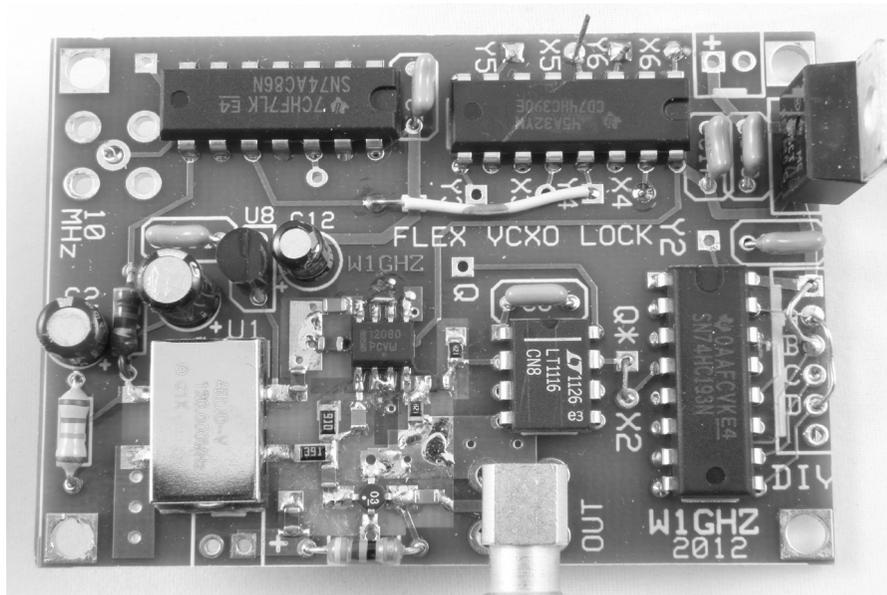
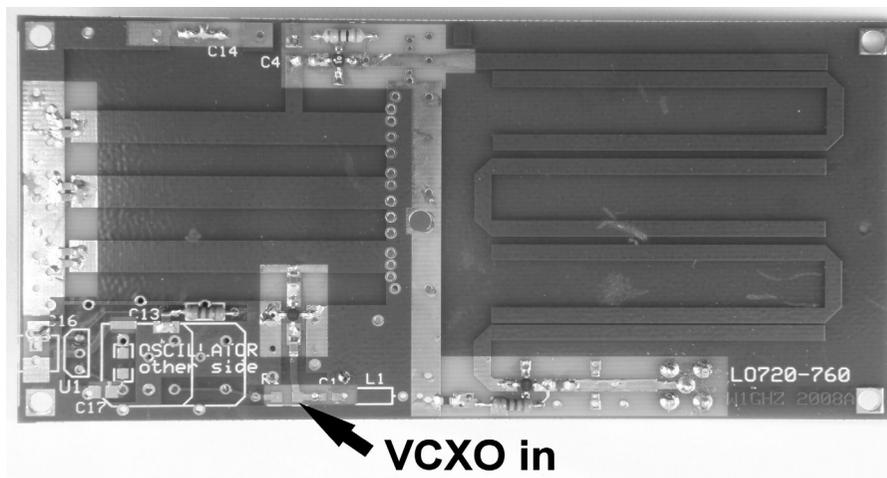
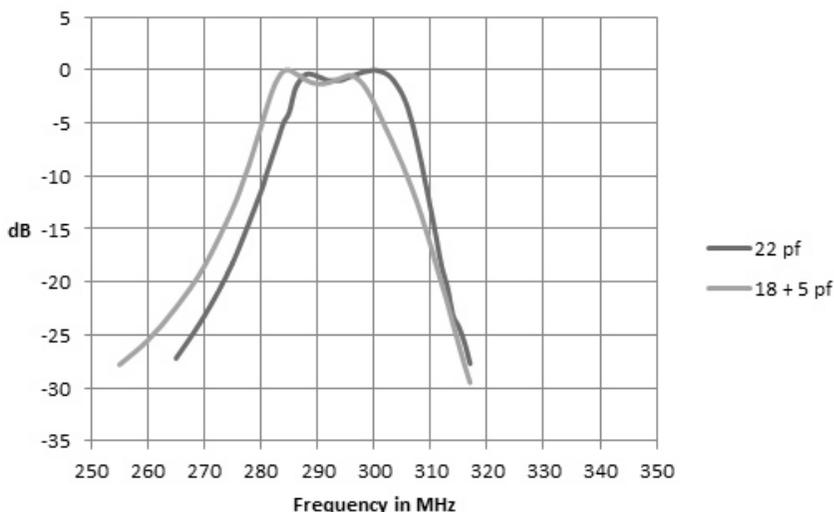
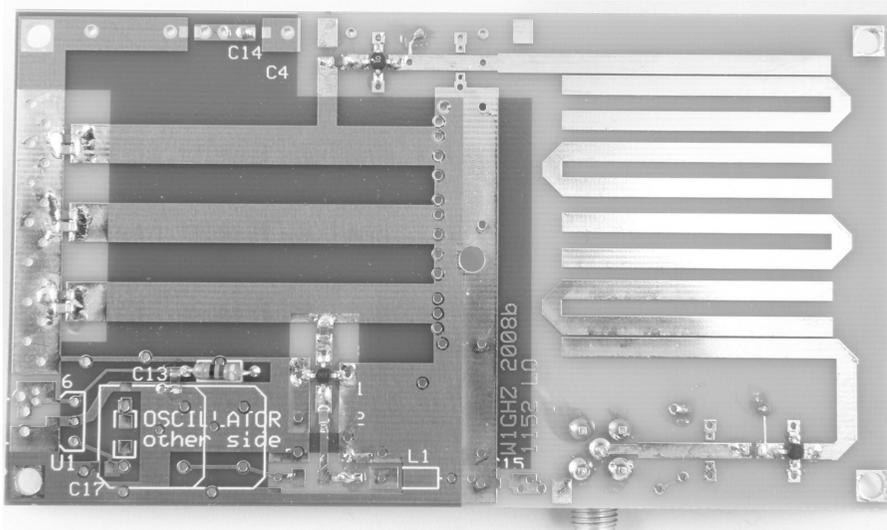

Figure 7 — 120 MHz VCXO board
Figure 8 — 720 MHz LO Multiplier board configured for external VCXO
Figure 9 — Response of Comb Filter for 288 MHz
Figure 10 —1152 MHz multiplier board configured for external 96 MHz VCXO input
**120 MHz** — provides a stable LO for 144 MHz. As shown in Figure 7, the prescaler is a MC12080 programmed to divide by 10, to 12 MHz. Selection of divide-by-10 requires changing both pins 3 and 6 from ground to high, by cutting the PCB traces and adding jumper wires from pin 3 to pin 2 and from pin 6 to pin 7. The rest of the wiring is the same as the 96 MHz board. This board also locks right up; the output has small spurs 1 MHz on each side of the main output.
To multiply from the VCXO board to the microwave LO frequency, I use the LO boards for my simple rover transverters, replacing the oscillator with the signal from the VCXO board.2 The 80 MHz VCXO drives the 720 MHz LO board — the frequency is further multiplied in the 2304 or 3456 MHz transverter. The multiplier board in photo in Figure 8 shows the input from the VCXO bypassing the oscillator section.
The 1152 MHz LO board originally used a 64 MHz crystal oscillator. To operate with 96 MHz input from the VCXO, the filter after the first tripler must be tuned to 288 MHz. With the 64 MHz oscillator, the combine filter was tuned to 192 MHz by capacitive loading of 36 pF (two 18 pF capacitors in parallel for lower loss). From the chart, Figure 7, in my transverter article, I estimated the required capacitance for 288 MHz as 22 pF.2 The filter response in Figure 9 shows that the filter is tuned slightly high, with 288 MHz at the edge of the response. Increasing the capacitance to 23 pF, an 18 pF in parallel with 5 pF, centered the filter near 288 MHz. The parallel capacitors slightly reduced the loss. The input connection to this multiplier board, shown in Figure 10, is similar to the one in Figure 8.